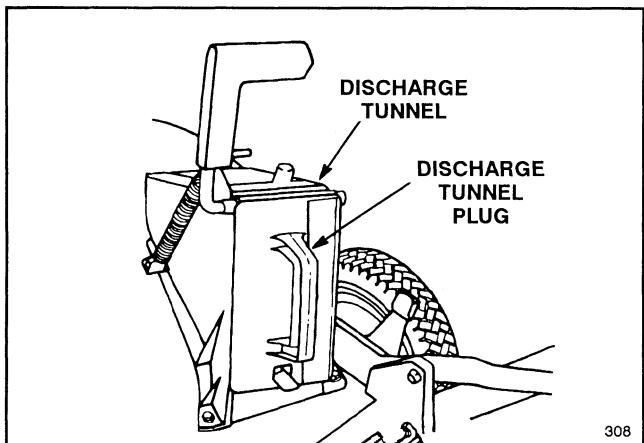

Figure 16
- 1. Recycler® Rear Bagging Kit, Model No. 59179**—Install discharge tunnel and rear mounting grass bag to convert Recycler® mower to a rear bagging mower (Fig. 16). Includes discharge tunnel plug.